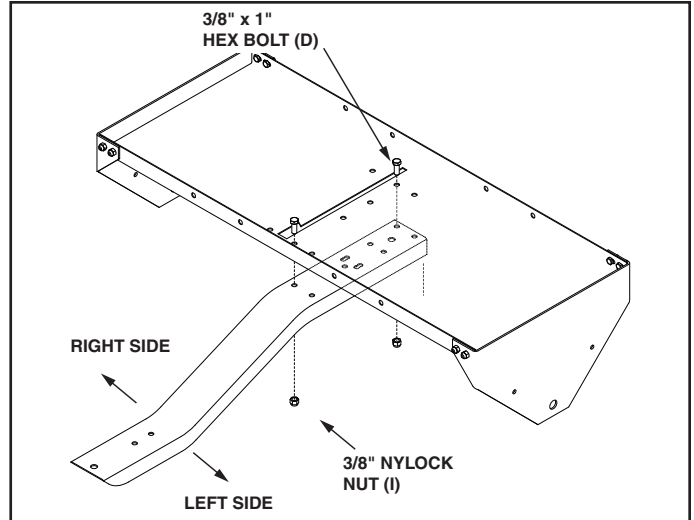

FIGURE 6
- Assemble the tongue to the tray using two 3/8" x 1" hex bolts (D) and 3/8" nylock nuts (I) as shown in figure 6. Tighten.